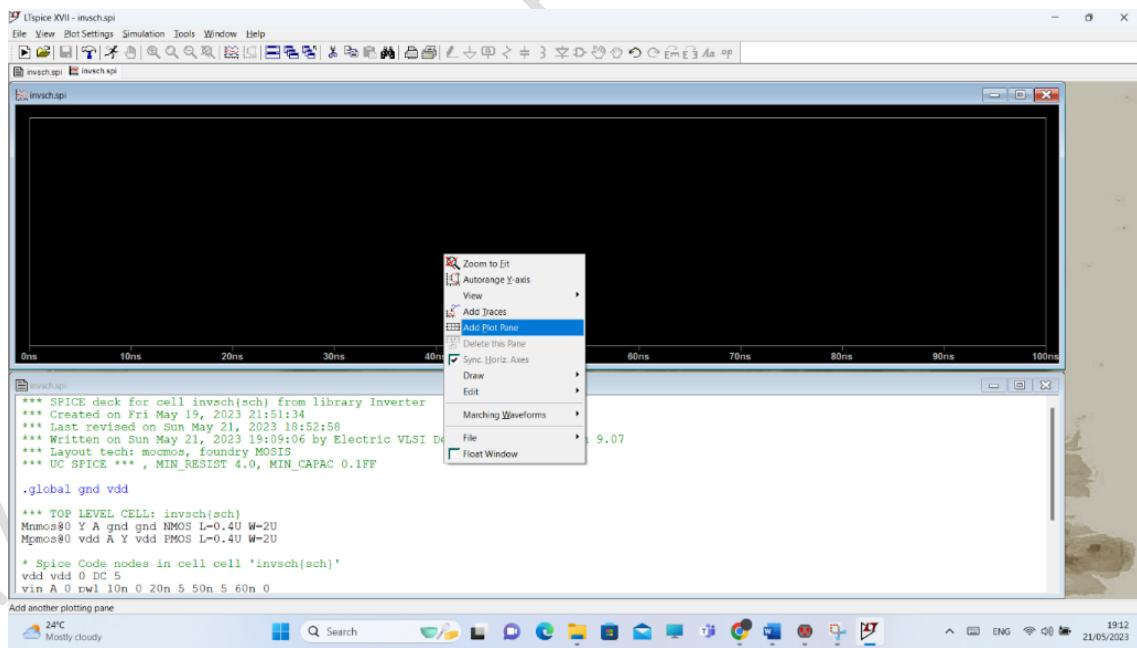

Figure 1.23: Add Plot Plan.
17. To split your input and output b, right-click on the back window >> Add Plot Plan, as shown in Figure 1.23